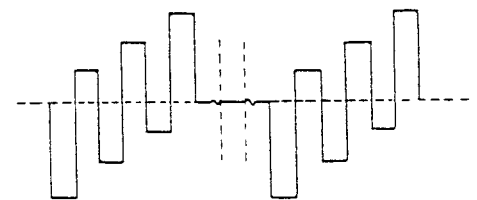

Fig. 20 B-Y Signal
- (d) Adjust L209 to obtain a B-Y signal with correct chrominance output, as shown in Fig.20 .